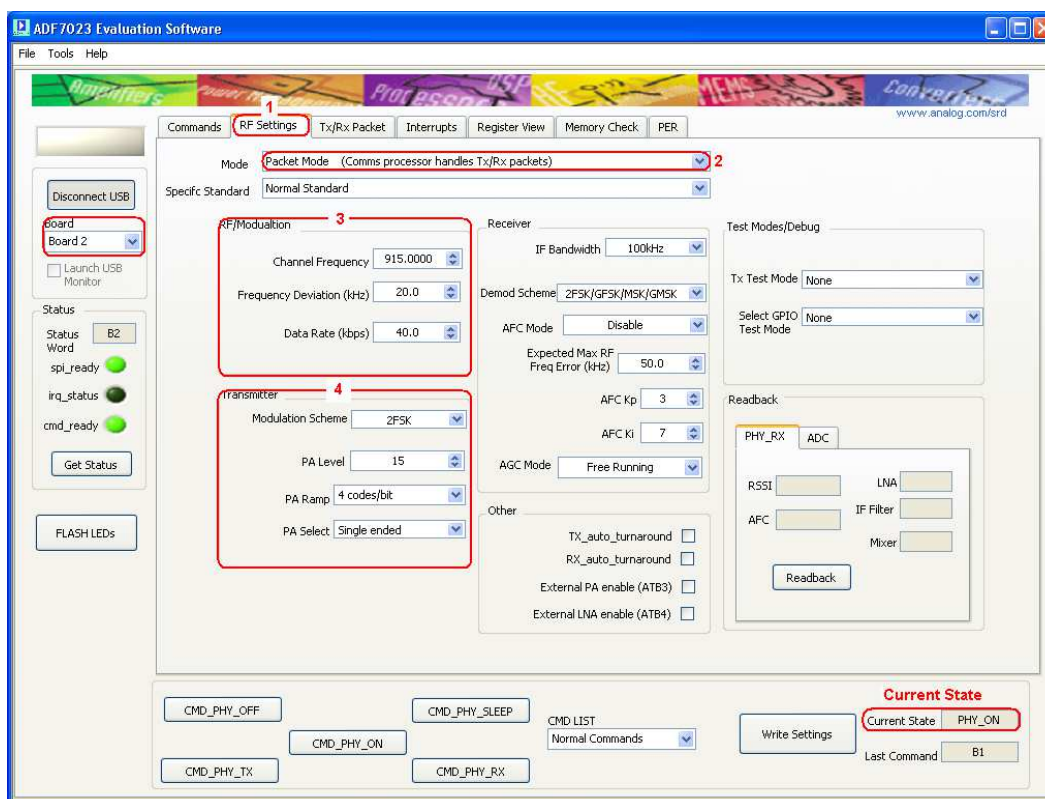

Figure 34
2. Select the “**RF Settings**” Tab (Figure 34 point (1))
3. Ensure “**Packet mode**” is selected. (Figure 34 point (2))
4. Set the “**RF/Modulation**” parameters as required. (Figure 34 point (3))
5. Set the “**Transmitter**” parameters as required. (Figure 34 point (4))